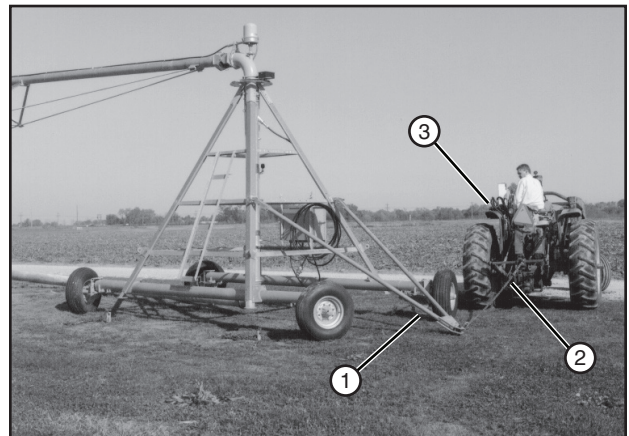

Figure 61-3 1. Tongue
15. Connect tongue to towing unit with a chain. See figure 61-3.